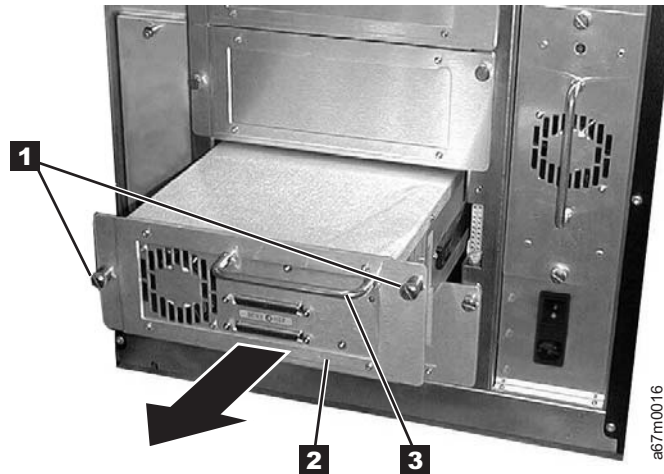

Figure B-13. Removing the Drive Sled
5. Loosen the two captive thumbscrews **1** on the drive sled **2** and slide the drive sled out using the handle **3** (see Figure B-13 on page B-17).
17. Slide the drive sled into slot you removed it from using the handle **3** (see Figure B-13 on page B-17). Tighten the two captive thumbscrews **1** on the drive sled **2**.